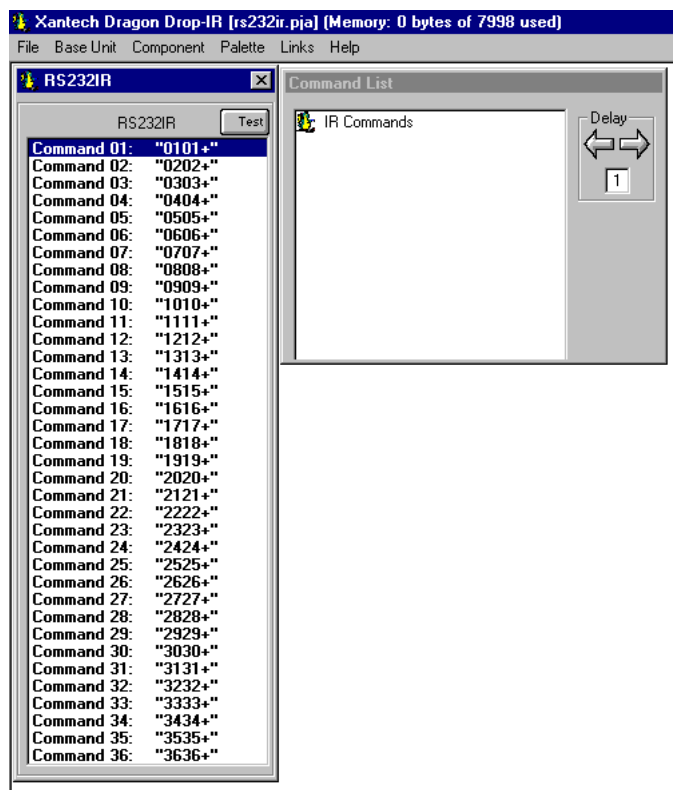

Figure 6 – ASCII Commands and Command List
4. A graphic window (RS232IR) with 36 ASCII Commands and a Command List will appear. **Figure 6.**